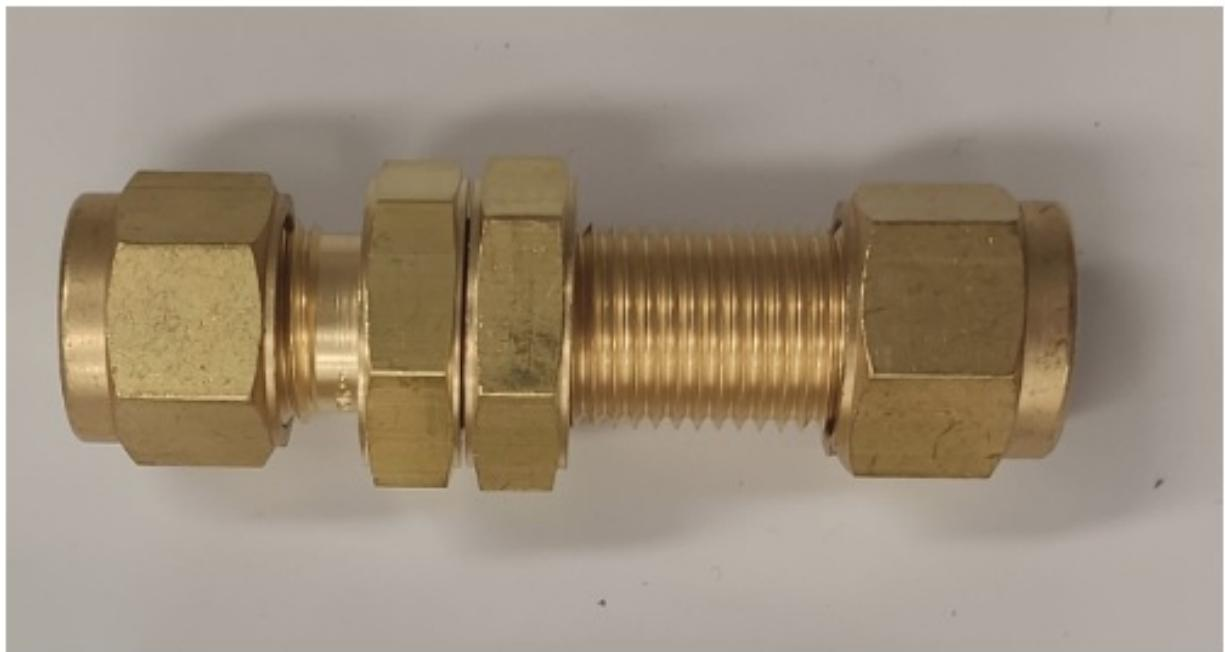

Figure 6
1. Connect the four chambers with the blue pipes using Swagelok unions shown in Figure 6. When you are tighting the union use keys number 16 and 18 and tight gently (Don't tight so much). Please Ask Ian Crotty, Ivan how much you can tight the union.